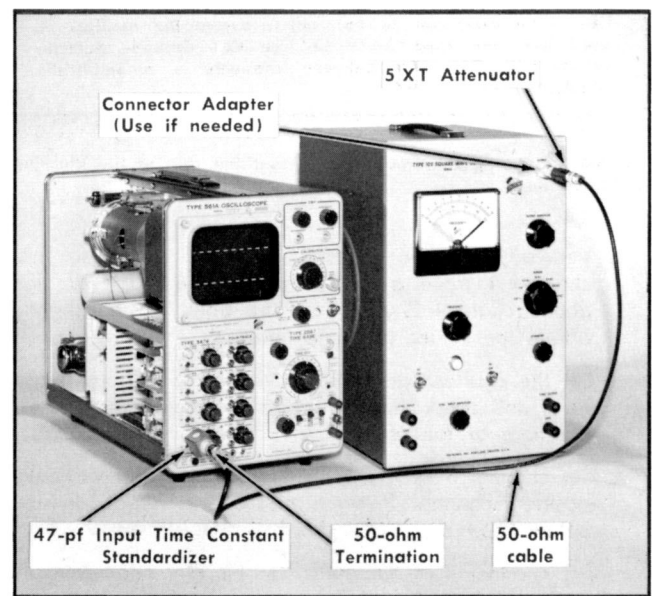

Fig. 6-5. The manner in which the Type 105 Square-Wave Generator should be connected to the Type 3A74 when preparing to adjust C416 (step 13f) in channel 4.
d. Connect the other end of the standardizer to the channel 4 Input connector. Fig. 6-5 shows the entire setup.
After completing the channel 4 adjustments, decrease the Type 105 output signal level to minimum and apply the signal to channel 3. (Use the same setup as shown in Fig. 6-5
- d. Connect the plug-end of the termination to the channel 1 Input connector. (This setup is similar to Fig. 6-5 except the 47-pf Input Time Constant Standardizer is not used.)